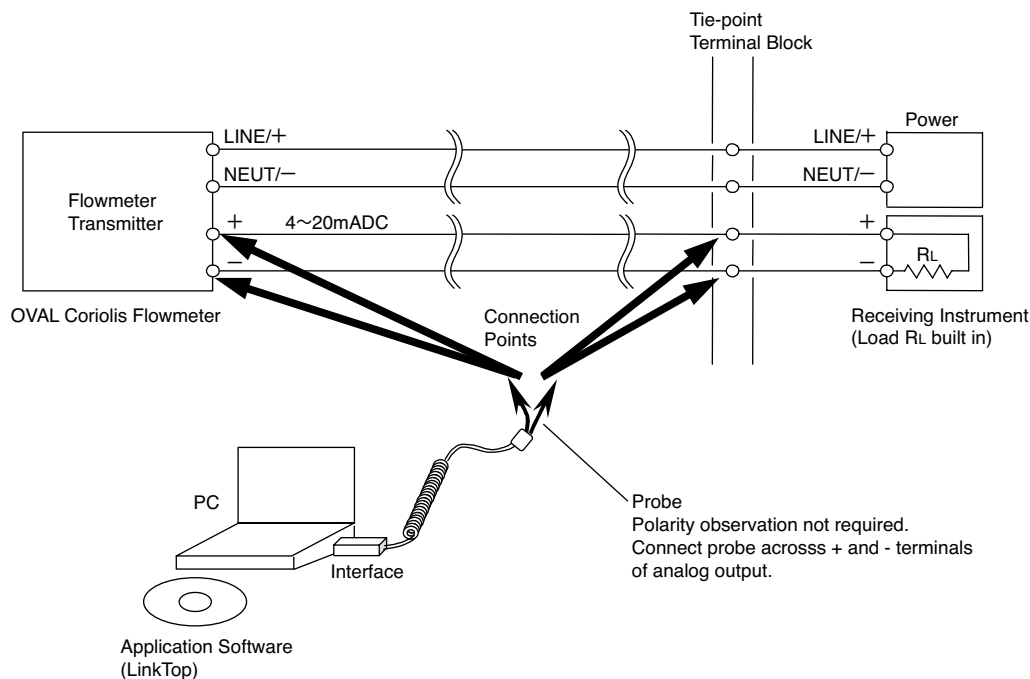

Fig.2
Equipment set-up with associated equipment and devices are shown in Fig. 2.
➡ NOTE: In Fig. 2, the customer is to supply the PC that meets the following requirements:
- ① Hook up the flowmeter transmitter, interface adapter, and "LinkTop" preinstalled PC as shown in Fig. 2.
- ② To get the LinkTop up and running, click "Start" at lower left of the PC screen and click "LinkTop for Coriolis ALTImass (E) " from "Program".
- ③ Click "Port setting (I) Ctrl + I" in "File (F)" at the top-level menu of screen.